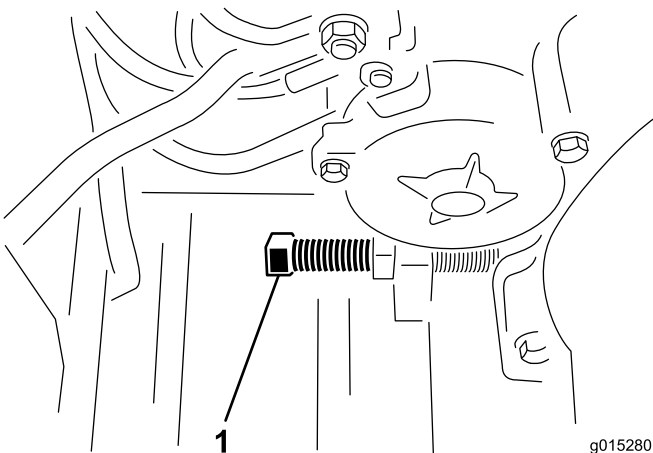

Figure 26
2. Turn the belt adjusting bolt until the desired belt tension is obtained. Slightly tighten the engine mounting bolts. Adjust the engine so that it is parallel with frame. Continue tightening the engine mounting bolts (Figure 26).